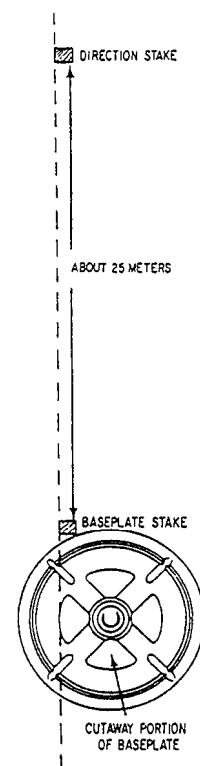

Figure 14-12.—Placing baseplate against baseplate stake.
Direct the initial fire of the mortar to the center of the target sector. The initial direction of fire is determined by the section leader or given to them by the forward observer (FO) or by the fire direction center (FDC). The section leader points out the mortar position and announces the direction of fire to the squad leader. The squad leader then places a baseplate stake where the baseplate is to be positioned. The squad leader then places a lensatic compass on the baseplate stake and rotates the compass until he can sight along the determined direction. He directs the ammo bearer to place a direction stake into the ground at least 25 meters from the baseplate stake along their line of sight. After the direction stake has been placed, the number 1 ammunition bearer for the squad places the outer edge of the baseplate against the baseplate stake, so the left edge of the cutout portion of the baseplate is aligned with the left edge of the stake (fig. 14-12).